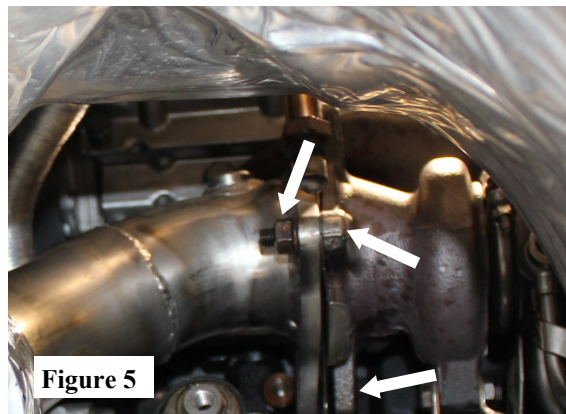

Figure 5
1. Orient and position the **Downpipe Assembly** flange to the factory and connect the hangars into the OE rubber hangar. Re-use factory hardware and tighten 18-22 ft lbs. (See Fig. 5)